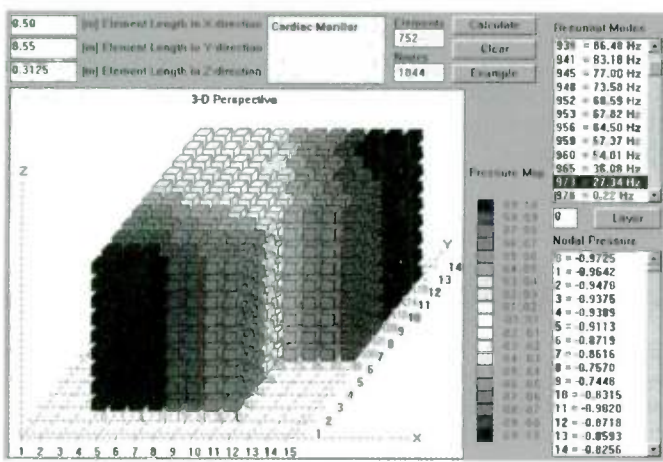
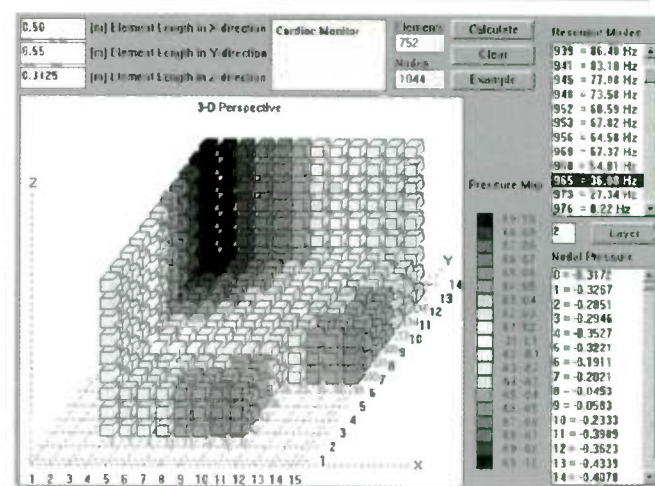

FIGURE 6: Pressure distribution of the 27Hz (lowest) mode.
FIGURE 7: Pressure distribution of the 36Hz mode, which appears as a gently curved line running from (X = 3/Y = 7) to (X = 11/Y = 13).
1. *Figure 6* shows pressure distribution of the 27Hz (lowest)
2. *Figure 7* shows pressure distribution of the 36Hz mode, which appears as a gently curved line running from (X = 3/Y = 7) to (X = 11/Y = 13).
For the given room dimensions, the lowest mode is 27Hz, which can develop only if you place the loudspeaker in corner E and select your listening position in corner A (see *Fig. 6*). The area to avoid for listening is the straight line between corners C and F. The second lowest mode is 36Hz (see *Fig. 7*), and you cannot readily predict this one without the FEM method. To energize this mode, I would place the second loudspeaker right in corner F and avoid listening positions halfway along the walls from F to E and A to F, and also the middle of the room.